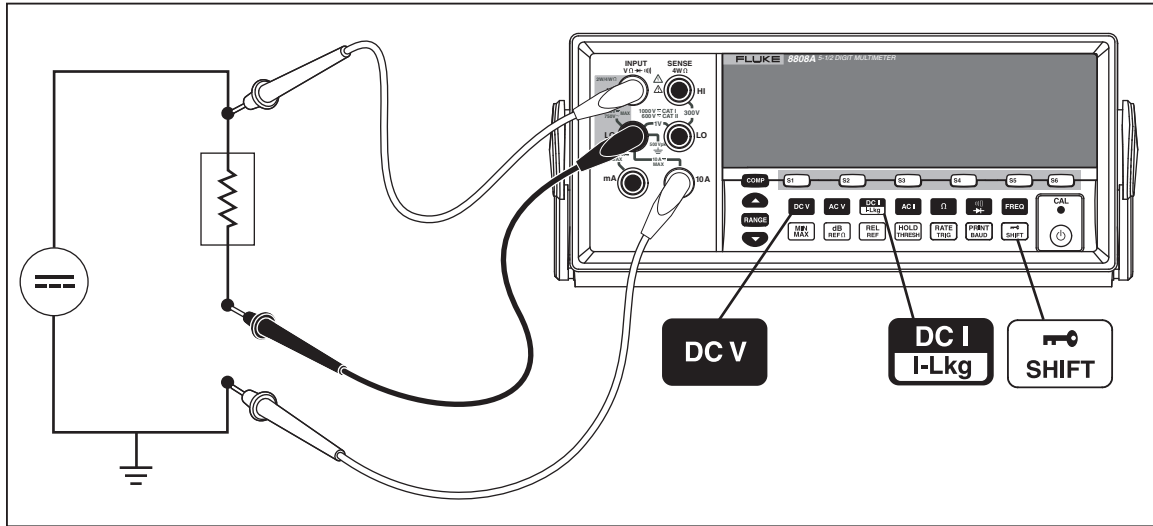

Figure A-2. DC Voltage and DC Current Measurement on Input Signal
Most applications of the dual display listed in Table A-2 can be performed using a single set of test leads connected to the **INPUT**  $V\Omega \rightarrow \rightarrow \rightarrow \rightarrow \rightarrow$  **HI** and **LO** terminals. However, to measure the voltage and current of an input signal requires three leads. Be sure that the voltage and current measurements share the same common as shown in Figure A-2. Then simply follow the precautions you would follow if you were making normal current measurements without a current clamp.
4. Connect the leads to the test circuit as shown in Figure A-2 and read the measurements on the display. Although current will be displayed as negative, it is in fact positive when interpreted according to current flow convention.